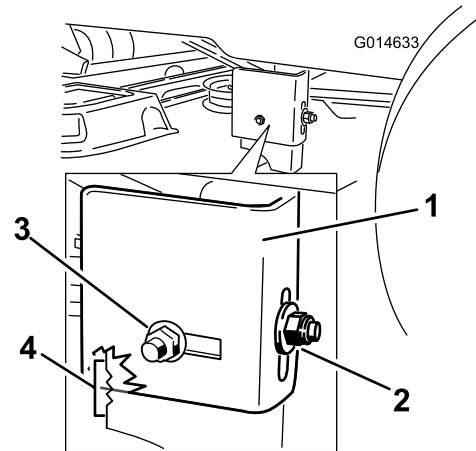

Figure 50
7. Move to the left side of the machine. Check if the side carriage bolt is in the fixed or slotted position (Figure 50).
8. If the side carriage bolt is in the fixed position, remove the side carriage bolt and side locking nut from the fixed position and install it into the slotted adjustment position (Figure 50).
9. Loosen the rear locking nut on the hanger bracket (Figure 50).